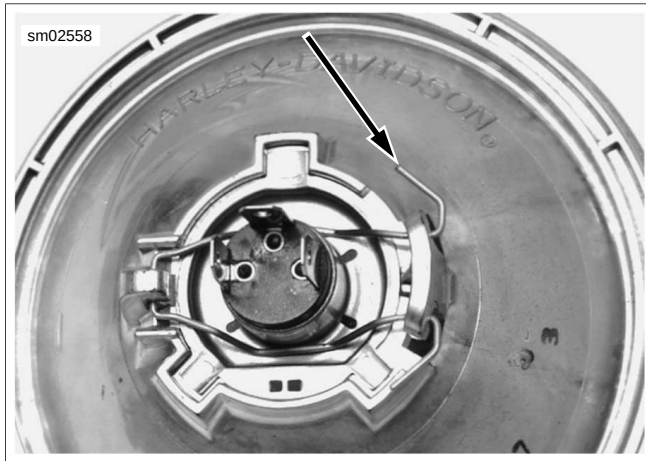
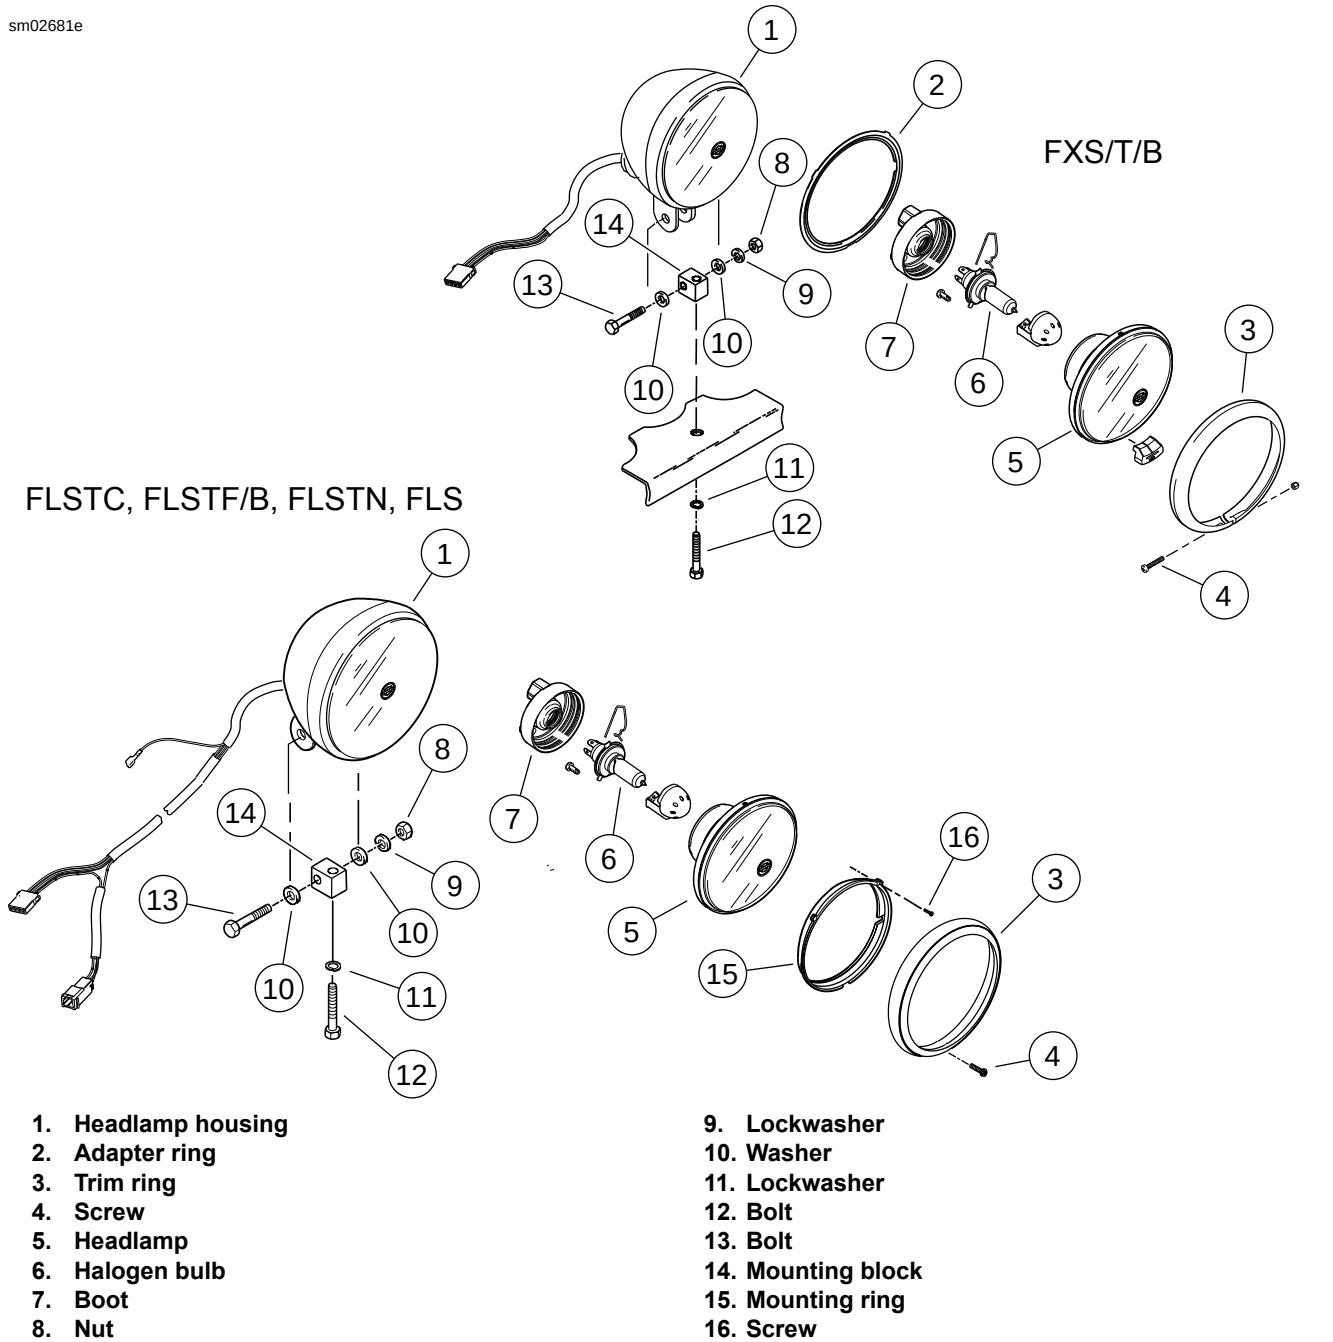

Figure 7-33. Wire Retaining Clip
Figure 7-34. Headlamps
1. See Figure 7-34. Loosen trim ring screw (4) and then remove trim ring (3).
3. Remove rubber boot (7) from back of headlamp (5).
4. See Figure 7-33. Squeeze wire retaining clip ends to unhook them from notches in headlamp assembly.
1. See Figure 7-34. Remove trim ring screw (4) and trim ring (3). Be careful not to bend the two tabs that hold the top of the trim ring in place.
2. Remove mounting ring screws (16) and mounting ring that holds sealed beam headlamp in place.
4. Remove rubber boot (7) from back of headlamp (5).
5. See Figure 7-33. Squeeze wire retaining clip ends to unhook them from notches in headlamp assembly.